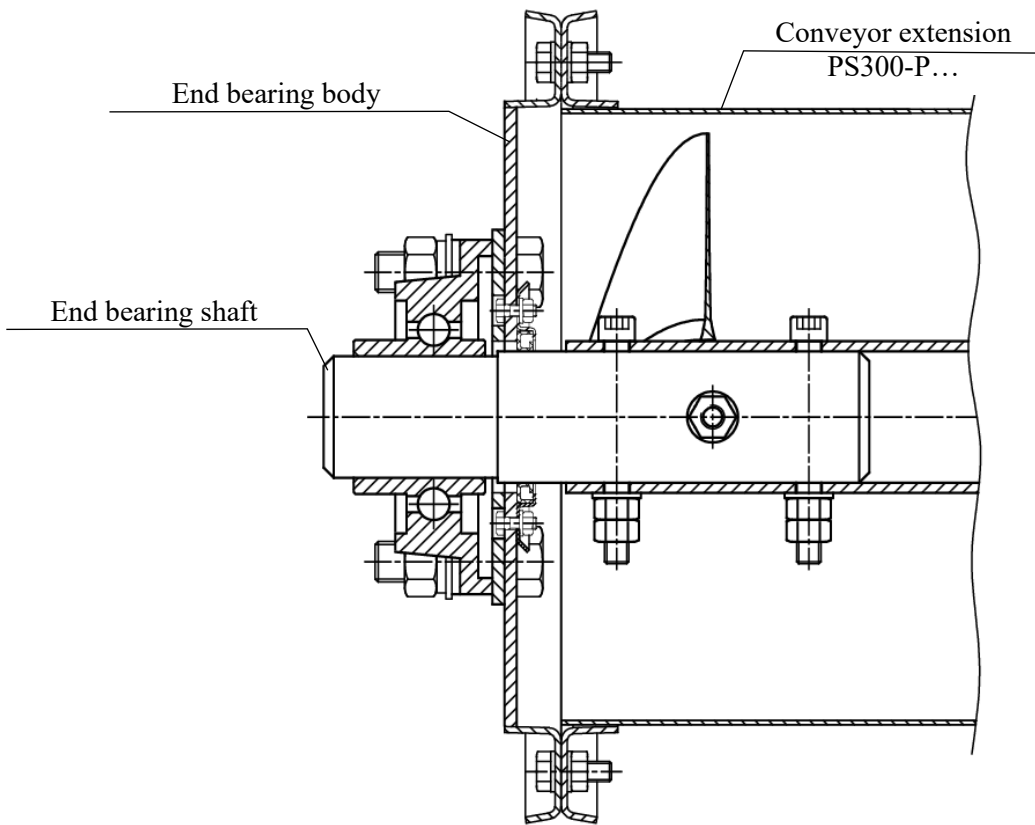

Figure 25. Installation of the end bearing shaft unit of the PS300 conveyor.
- Following installation of the conveyor extensions and bearings, the end bearing shaft unit of the conveyor is assembled (Fig. 25). Cover the bearing shaft with solid grease of the LT-43 type or similar, and seal the connection between a flange of the end bearing body and the conveyor extension with roofing sealant.